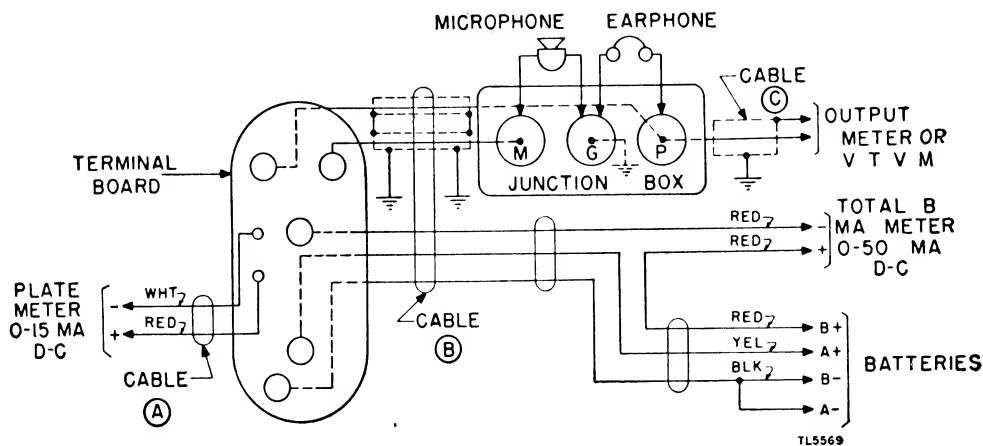

Figure 58. Test Equipment IE-15-A, harness connections.
c. A special test harness cord supplied with the stand provides connections for the batteries, r-f amplifier plate current meter, total B current meter, audio output meter, earphone, and microphone. The schematic drawing of this harness is shown in figure 58. The 15-milliamperere meter is used to measure the r-f amplifier plate current; the 50-milliamperere meter is used to measure the total Battery BA-38 current. The terminal board attached to the harness provides a simple method of making the connections to the chassis.